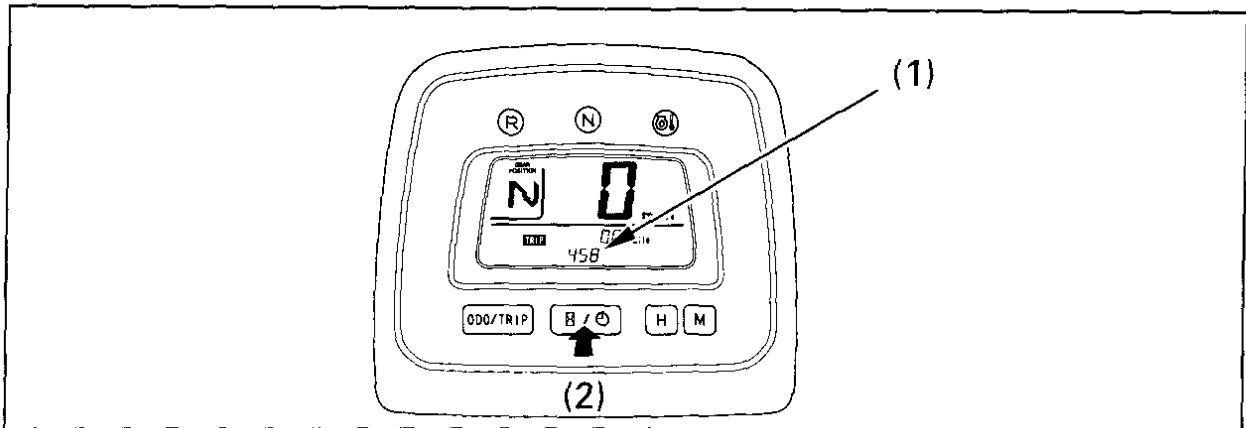

Fig. 2-20 (1) Digital clock (2) Hourmeter/digital clock select button
When selected, the digital clock (1) (Fig. 2-20) shows the time while the ignition is ON (I). To change the display from hourmeter to digital clock, press and release the hourmeter/digital clock select button (2).